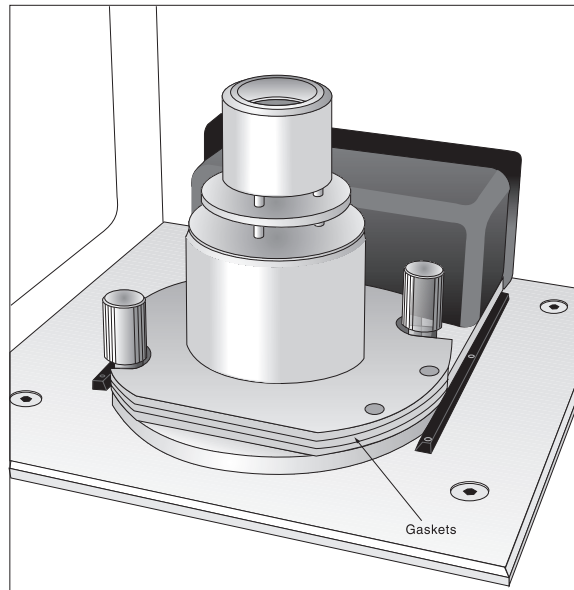

Figure 2.13
4. Fit the three new gaskets onto the cell base plate (see Figure 2.13), aligning the holes in the gaskets over the two thumbscrews.